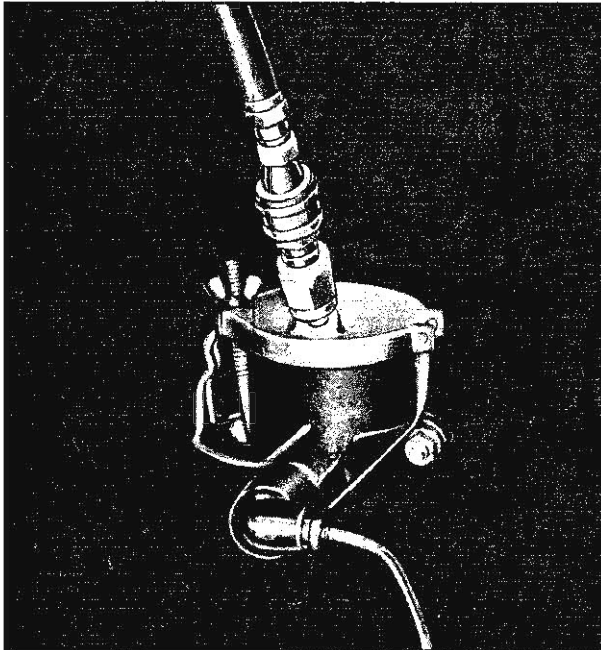

Fig. 4—Pressure Bleeding Adapter—Installed
2. Install Tool J-21479 (fig. 4), connect hose from bleeder equipment to Tool J-21479 and open release valve on bleeder equipment.